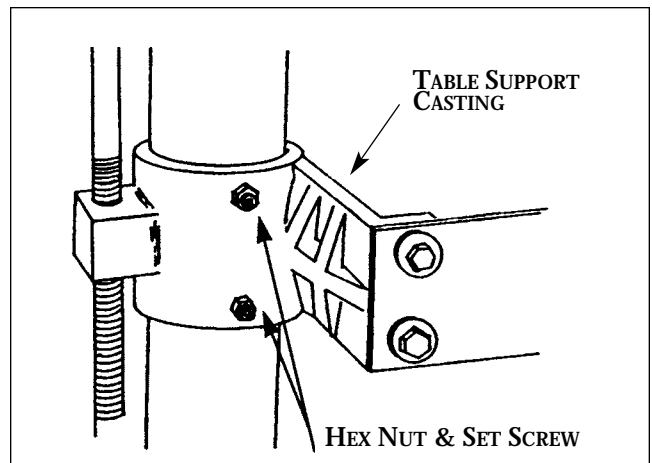
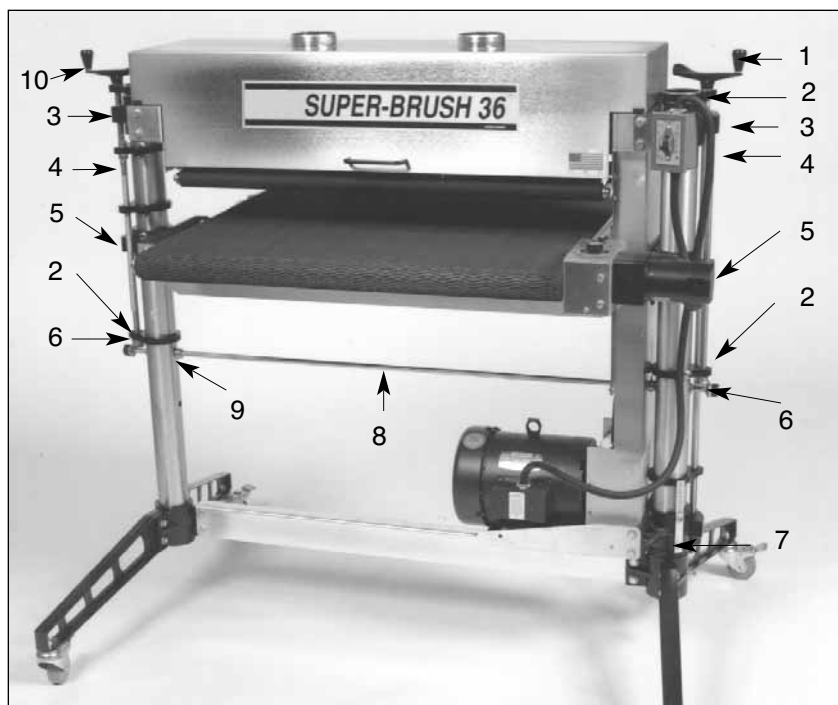

Fig. 3. Table support casting and set screws.
Fig. 5. SUPERBRUSH Components.
2. Loosen the hex nuts and set screws on the table support castings (Fig. 3) and on the motor support casting (7)(Fig. 5). The set screws on the table support castings have been tightened at the factory to eliminate free-play between the castings and the column tube during shipment. There are two table support castings on the SUPERBRUSH, one each for the right and left column tubes, and one motor support casting, all with set screws.
The table height is controlled by the height adjustment handle (10)(Fig.5). Turning the handle raises or lowers both sides of the table simultaneously by transferring the handle rotation through the miter gear and transfer rod assembly. One revolution of the handle raises or lowers the table $\frac{3}{32}$ of an inch.
Before operating height adjustment, be sure both set screws located in both table support castings (Fig. 3) are loose to allow table support to slide on both column tubes. (These set screws are tightened for shipping.)
equal across the width of the conveyor. If the SUPERBRUSH is properly leveled (See checking machine for level), brush misalignment can be corrected by loosening the two set screws at the front of the outboard brush support casting (Fig. 5) and by raising or lowering casting to correct alignment.
The SUPERBRUSH is equipped with a variable speed drive which allows the brush to be operated anywhere between 400 and 1200 RPM. The faster the brush speed, the more aggressive the brush action. The brush speed control handle (1)(Fig. 5) raises or lowers the motor support casting (7)(Fig. 5) which activates the variable speed drive pulley.